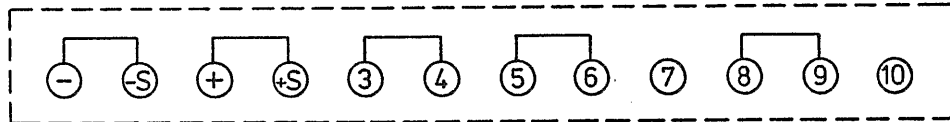

Figure 2-2
- o Make sure that the jumpers of the terminal blocks on the rear panel are securely connected as shown in Figure 2-2.